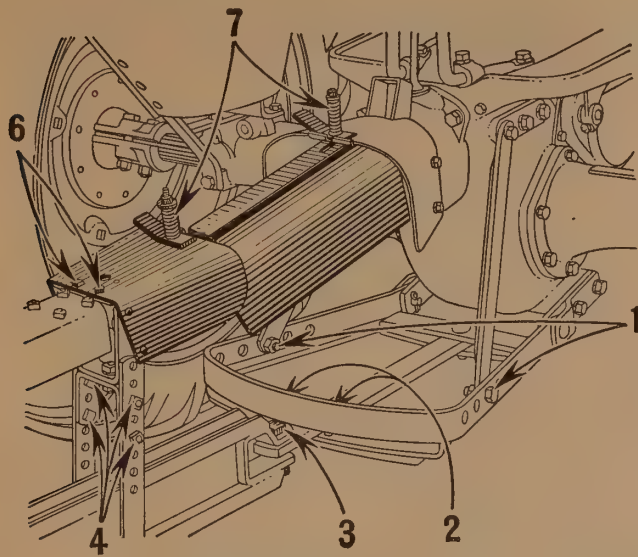

Fig. 44
1. (Fig. 44.) Set lower end of drawbar braces in center set of holes as shown.
2. (Fig. 44.) Clamp swinging drawbar to center of drawbar guide.
3. (Fig. 44.) Connect Binder to tractor drawbar.
4. (Fig. 44.) Adjust height of power shaft front bearing to level power line as shown.
6. (Fig. 44.) Bolt power shaft shield to **rear** set of holes in power shaft front bearing housing.
7. (Fig. 44.) Attach universal joint and pipe connection shield to take-off shaft shield on tractor and to shield on power shaft front bearing.